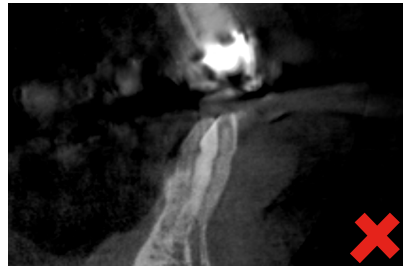

Figure 2: Patient movement
- Ensure that the patient does not move during the scan in order to avoid movement artifacts (see figure 2).